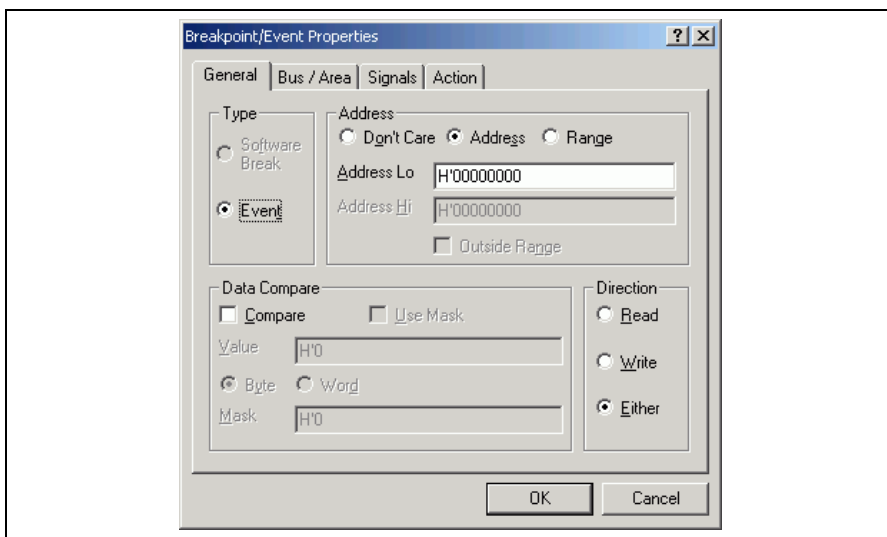

Figure 6.42 [Breakpoint/Event Properties] Dialog Box
- (2) Register the address range for trace acquisition as an event condition. Click the [Add...] button in the [Trace Events] group box on the [General] page to display the [Breakpoint/Event Properties] dialog box (see figure 6.42, [Breakpoint/Event Properties] dialog box).
- (3) Click the [Range] radio button in the [Address] group box on the [General] page of the [Breakpoint/Event Properties] dialog box. Use the [Locals] window to refer to the address on the line where variable `a`, which is defined within the `tutorial` function, is allocated (`H'00FFFEF80` in this example) and enter this address in the [Address Lo] edit box. Then enter an address, which is `H'27` added to that entered in the [Address Lo] edit box (`H'00FFFEFA7` in this example), in the [Address Hi] edit box. This procedure sets the memory range for variable `a` of the `tutorial` function.
- (4) Click the [Write] radio button in the [Direction] group box to set a write cycle for the specified range. This completes the setting of a memory range. Click the [OK] button to close the [Breakpoint/Event Properties] dialog box.